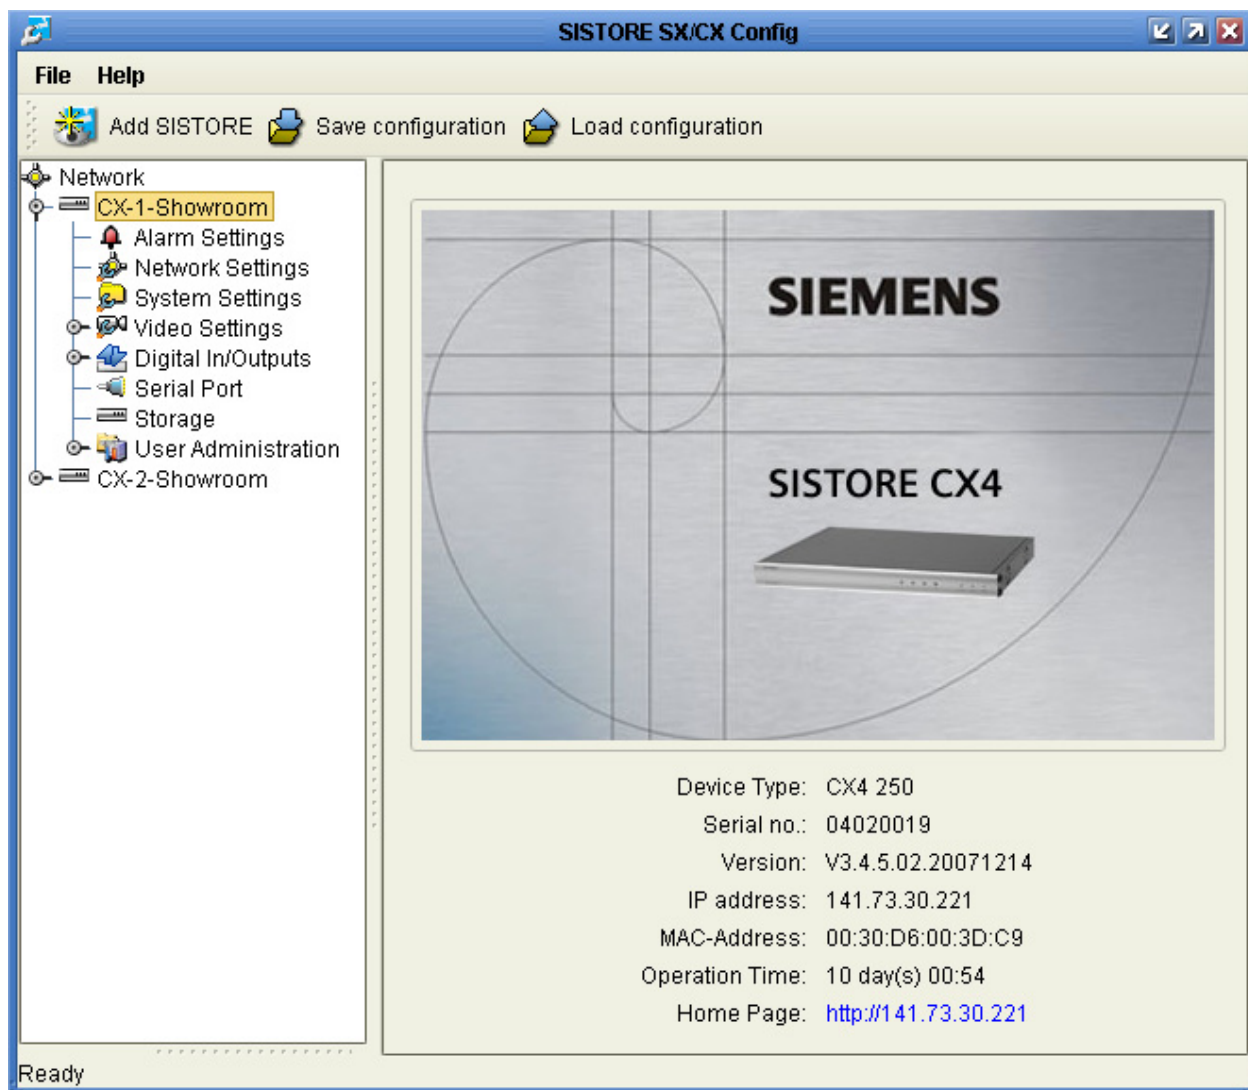

Fig. 12 SISTORE configuration data – Save configuration
3. Click **Load configuration** (see Fig. 12).